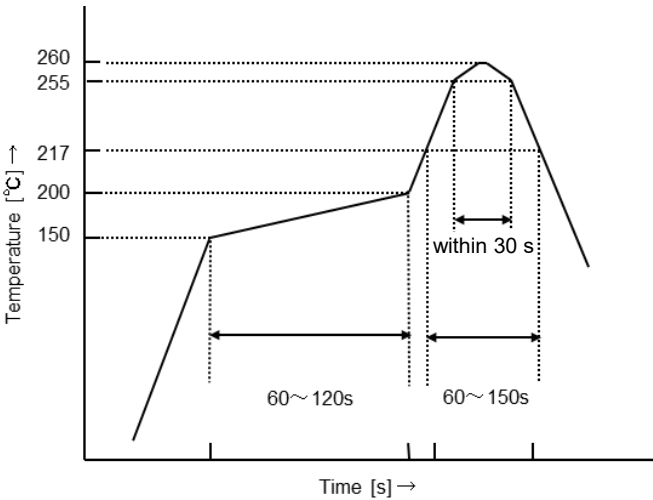

Figure 3-5-1. Example of Temperature Profile
- (1) It is recommended the top and bottom heating method with long or medium infrared rays.
- (2) The maximum package surface temperature is 260°C. The duration where package surface temperature is 255°C or more must be no longer than 30 seconds.
- (3) Refer to Figure 3-5-1 for an example of a temperature profile.
For an example of a temperature profile, refer to Figure 3-5-1 above.